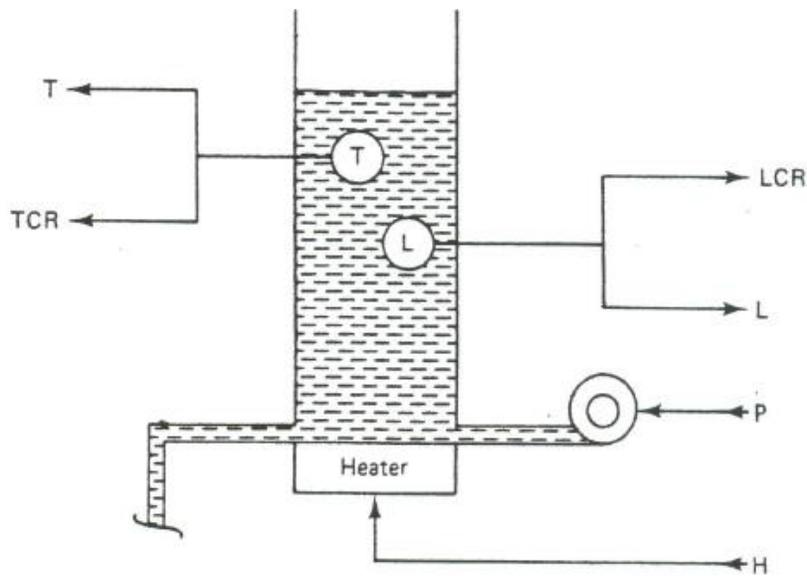

Figure 1
Q1-In the system shown in figure 1, the measured states are Level (L), critical Level (LCR), and Temp (T) & critical Temp (TCR) .The control outputs is heater (H) & Pump (P). A high of either input or output indicates true condition. Construct a flow chart for the system. The states are defined as: